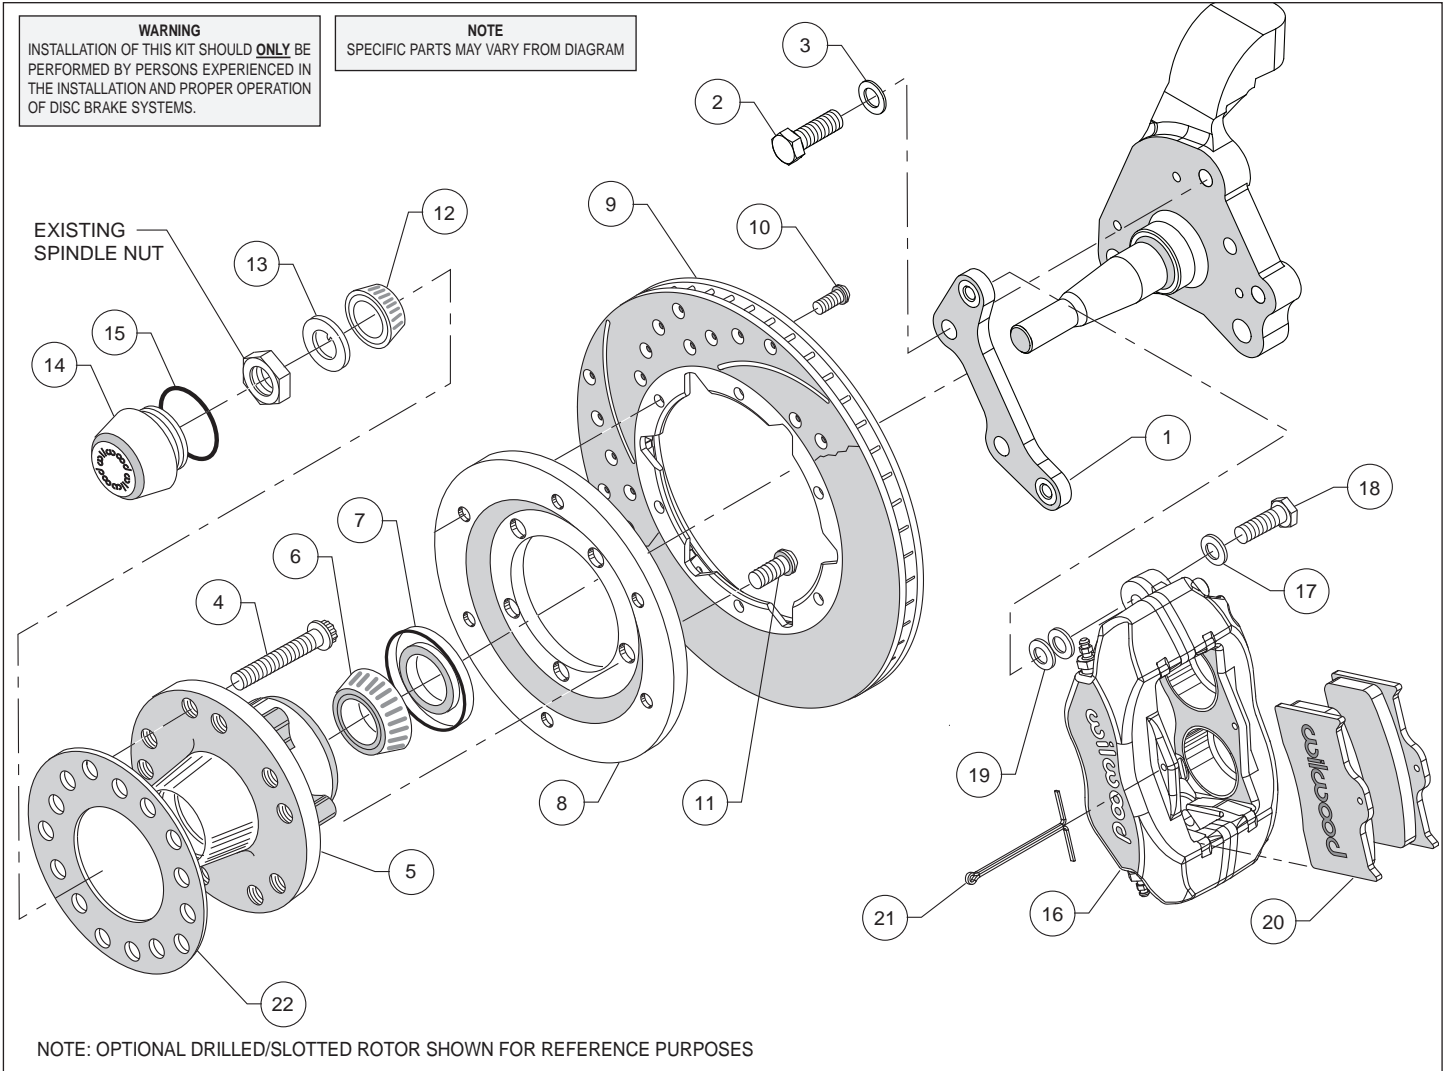
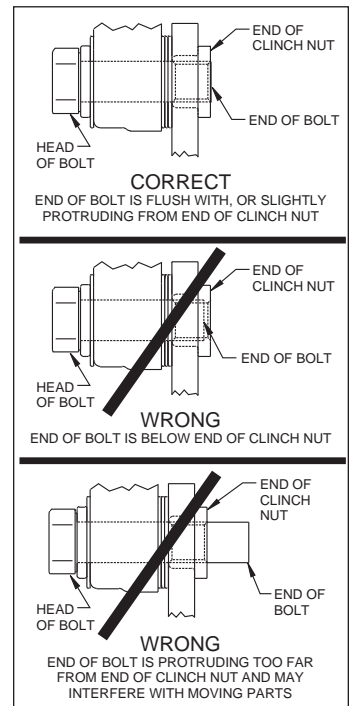

Figure 1. Typical Installation Configuration
Figure 3. Clinch Nut Engagement Diagram
Assembly Instructions (numbers in parenthesis refer to the parts list, on the preceding page and Figure 1): **CAUTION:** All mounting bolts must fully engage clinch nuts. Be sure to check that all bolts are either flush or protruding through flanged side of clinch nut after shimming, Figure 3.
- Align caliper mounting bracket (1) with the corresponding holes, to the face of the spindle. Attach using bolts (2), and washers (3), as shown in Figure 1 and Photo 1. Temporarily tighten the mounting bolts. Ensure that the flanged heads of the clinch nuts in the bracket are facing outboard, Photo 1. **NOTE:** The bracket must fit squarely against the mounting points on the spindle. Inspect for interference from casting irregularities, machining ridges, burrs, etc. Remove bolts one at a time, apply red *Loctite*® 271 to threads and torque to 77 ft-lbs.
- Install the grease seal (7) by pressing into the backside of the hub (5), flush with the end of the hub, Photo 3.
- Orient the rotor (9) and the rotor adapter (8) as shown in Figure 1 and Photo 4. Attach the rotor to the adapter using bolts (10). Using an alternating sequence, apply red *Loctite*® 271 to the threads, and torque to 25 ft-lb.
- Mount the adapter/rotor assembly (8/9) to the hub (5) using bolts (11), as shown in Figure 1 and Photo 5. Using an alternating sequence, apply red *Loctite*® 271 to the threads, and torque to 55 ft-lb.
- Screw dust cap (14) into hub (5), Photo 7. Friction created by the o-ring (15) on the dust cap keeps it from unscrewing. **NOTE:** The O.D. of the existing OEM spindle washer may be larger than the I.D. of the dust cap not allowing it to seat against the hub face. Therefore, use the spindle washer (13) supplied with the kit instead of the OEM washer.
- NOTE:** Please reference the caution statement at the beginning of the assembly instructions. Mount the caliper (16) onto the caliper mounting bracket (1) using bolts (18) and washers (17), as shown in Figure 1. Initially place two .035" thick shims (19) on each bolt between the caliper and the bracket, Photo 8. Temporarily tighten the mounting bolts and view the rotor (9) through the top opening of the caliper. The rotor should be centered in the caliper, Photo 9. If not, adjust by adding or subtracting shims between the bracket and the caliper. Always use the same amount of shims on each of the two mounting bolts. **NOTE:** The end of each bolt must be flush with or slightly protruding from the head of the clinch nut, as shown in Figure 3. If necessary place spare shims between washer (17) and caliper mounting ear to achieve the proper clinch nut engagement. Once the caliper alignment and clinch nut engagement are correct, remove the bolts one at a time, apply red *Loctite*® 271 to bolt threads, and torque to 40 ft-lb.